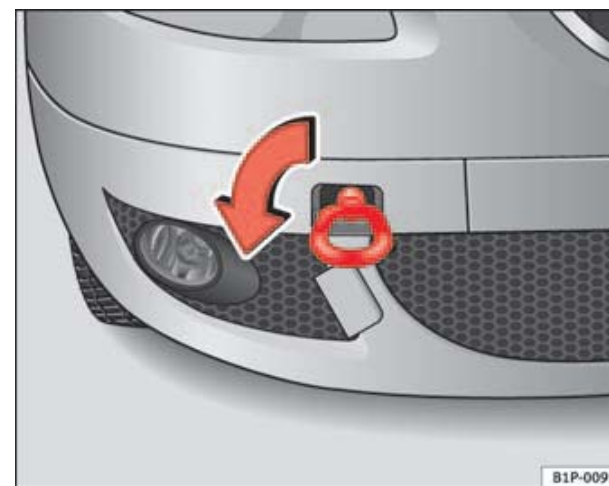
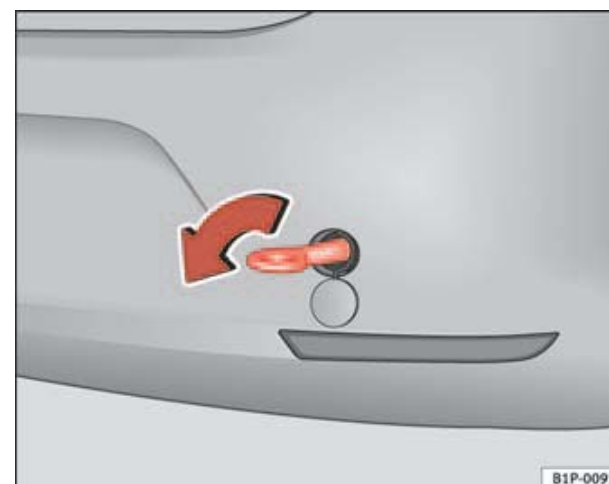

Fig. 181 The front right section of the vehicle: Fitting the front towing eye
Fig. 182 Fitting the towing eye to the rear of the vehicle
- Screw the towing eye as shown by arrow *anti-clockwise* to the limit position in the front ⇒ page 251, fig. 181 or rear ⇒ page 251, fig. 182 threaded hole.